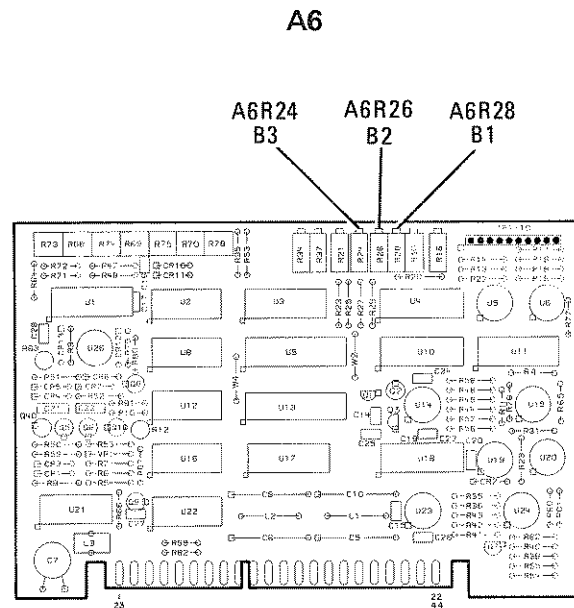
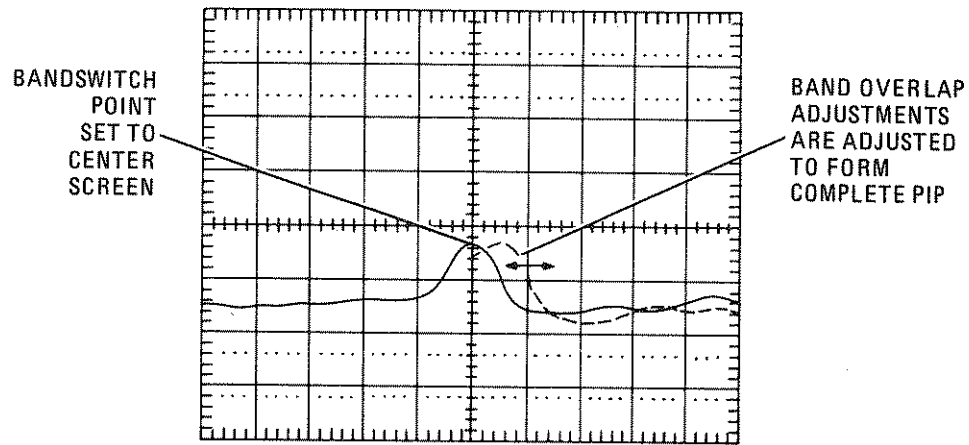

Figure 5-26. Band Overlap Adjustment Locations
Figure 5-27. Band Overlap Adjustment Waveform
7. Adjust A6R28 (B1) to bring the right side pip over to the bandswitch point so that the right half of this pip mates with the left half of the other as shown in Figure 5-27. Refer to Figure 5-26 for the adjustment location. The pip should be undisturbed as it moves through the bandswitch point.